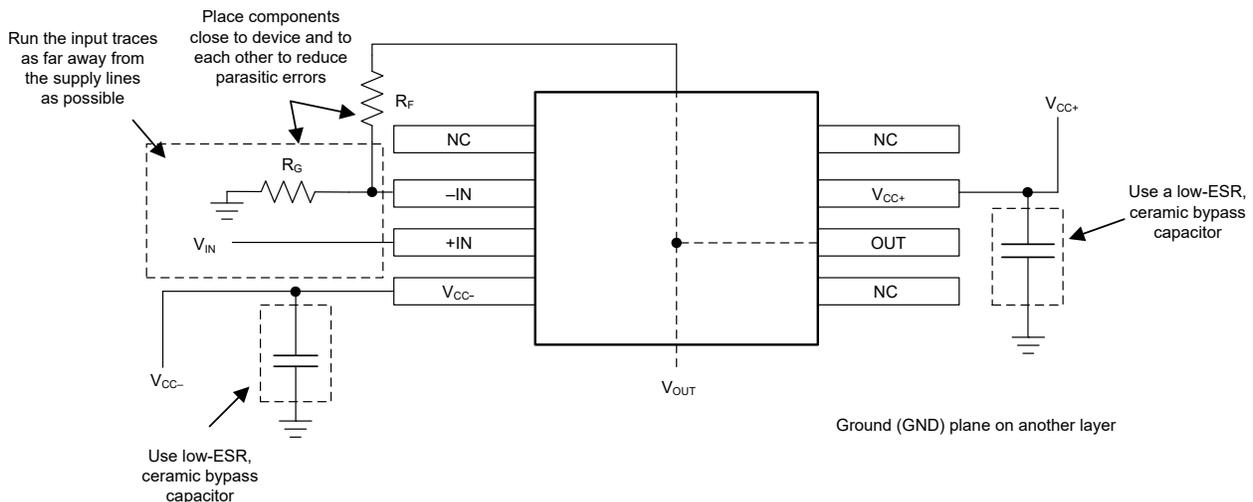

Figure 7-4. Operational Amplifier Board Layout for Noninverting Configuration
4. Place the external components as close to the device as possible. Figure 7-4 shows how to keep  $R_F$  and  $R_G$  close to the inverting input to minimize parasitic capacitance.